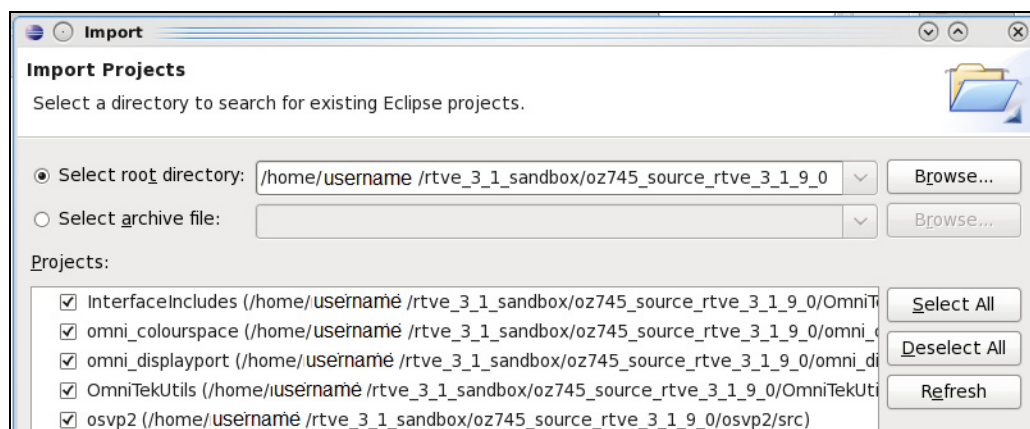

Figure 26: Import Existing Projects
- e. Select File -> Import -> General -> Existing Projects** into Workspace (see Figure 26). This imports the sandbox into the workspace.